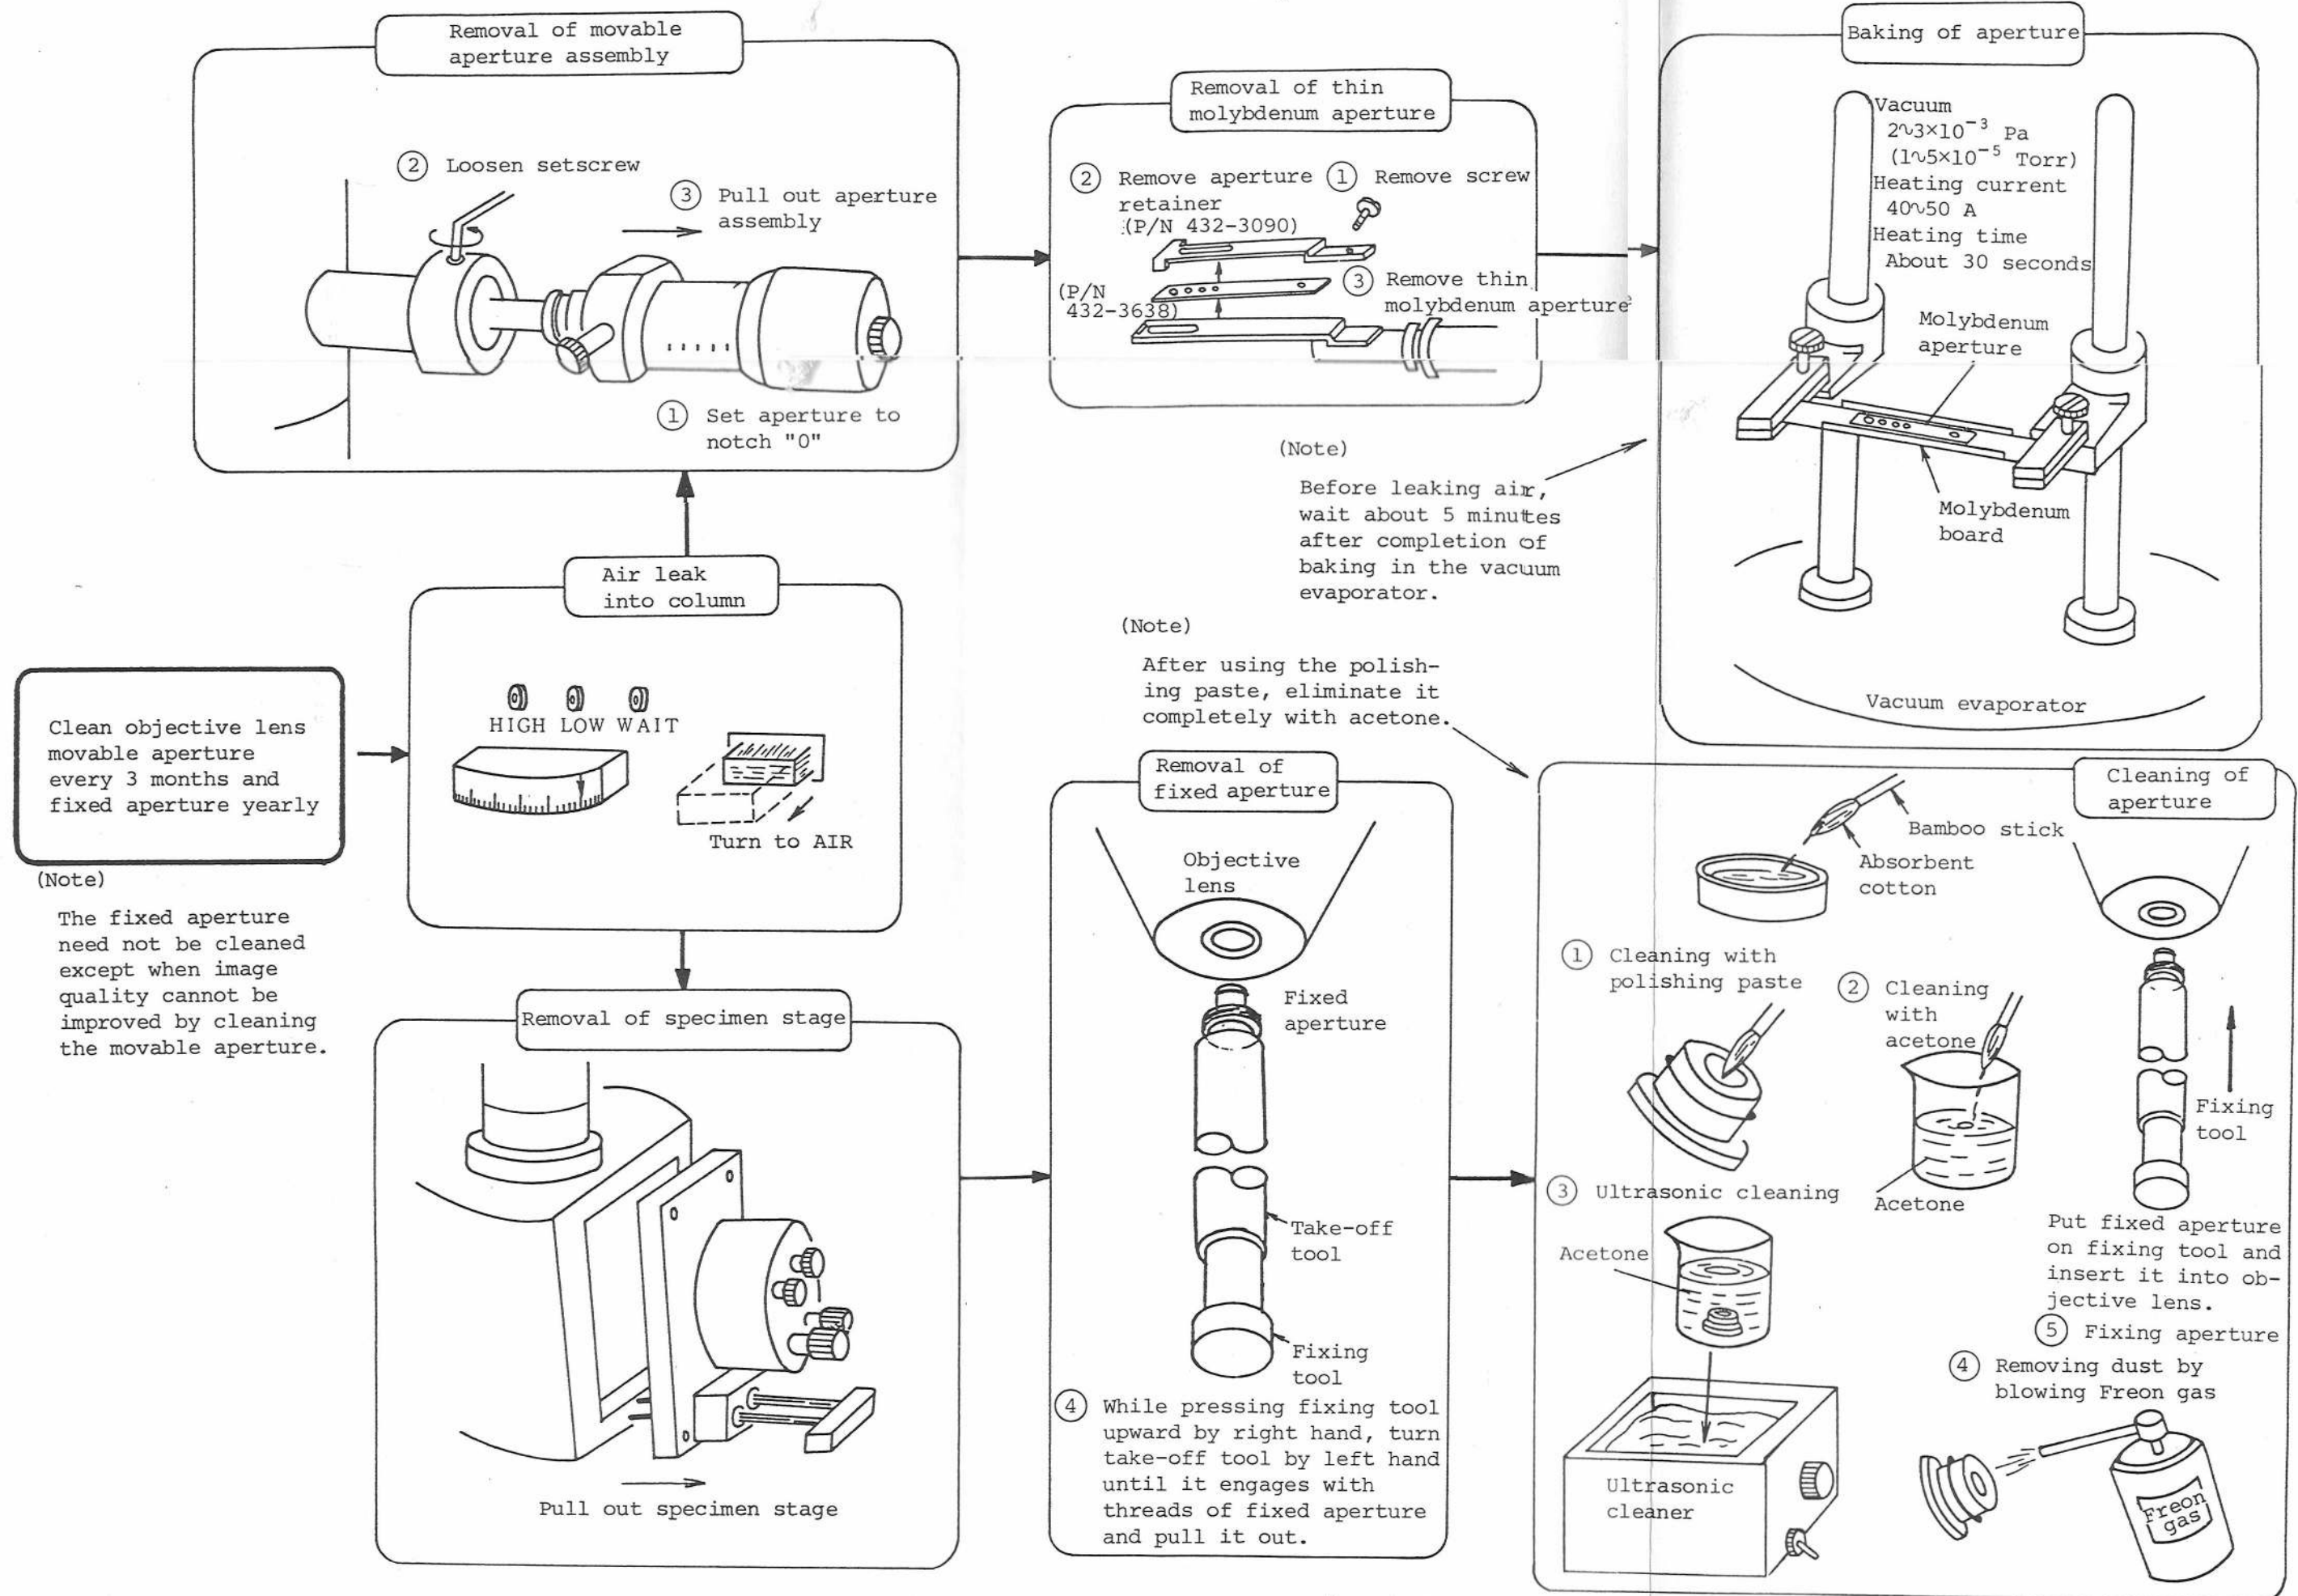

Fig. 4-3 Procedure for Cleaning Objective Lens Movable Aperture
- (1) Clean the aperture periodically, usually every 3 months.
- (2) Clean the aperture if image resolution is degraded and it appears that this poor performance is caused by contaminated aperture. (See 4-9-2.)
- (3) When low accelerating voltages of up to 5 kV are mainly used, shortening the interval of periodical cleaning may be required.
- (4) Cleaning must be done with reference to Fig. 4-3.
- (1) After use for 1 year usually (as a periodical cleaning)
- (2) If normal image resolution cannot be recovered by cleaning the movable aperture (See 4-9-2.)
- (3) Cleaning must be done with reference to Fig. 4-3.